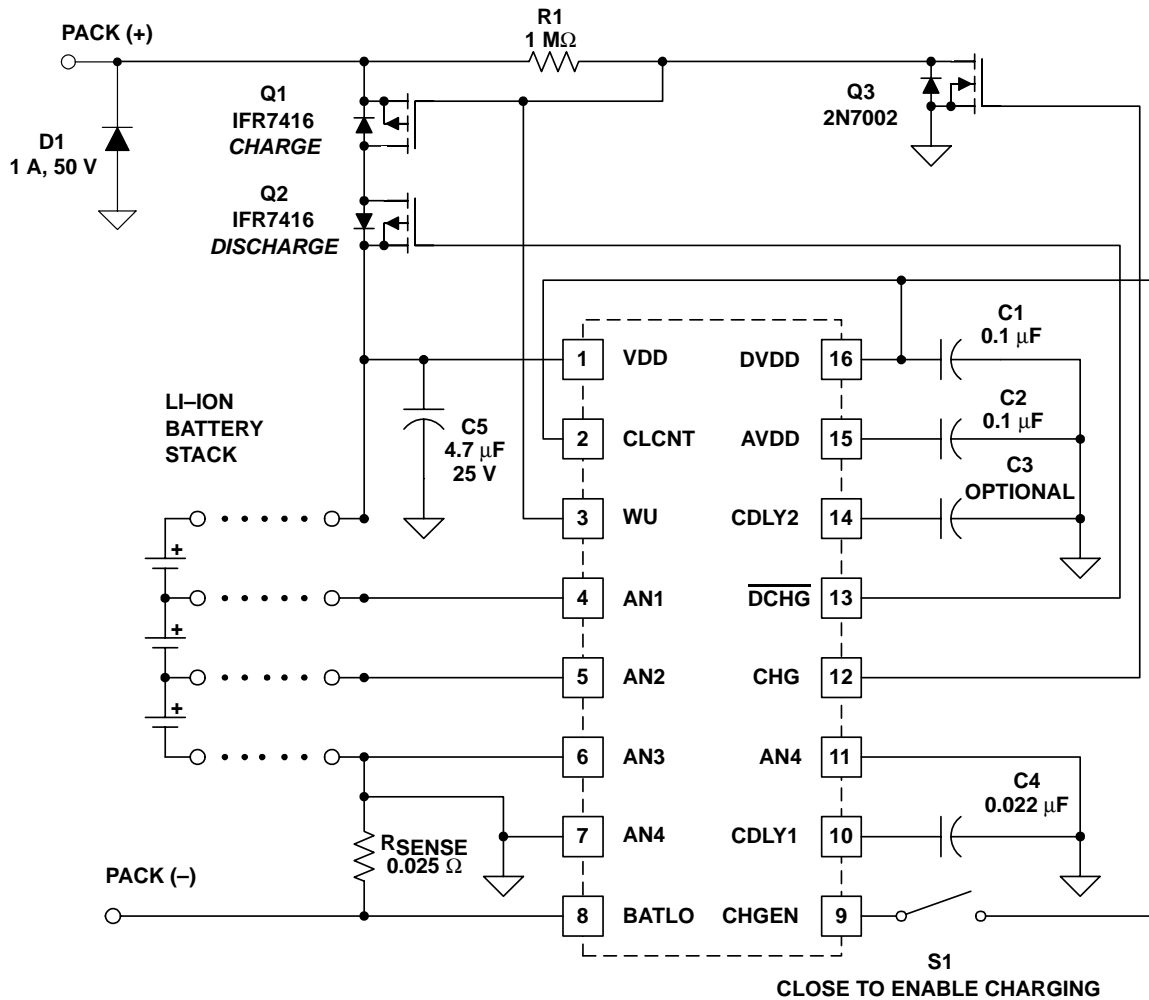
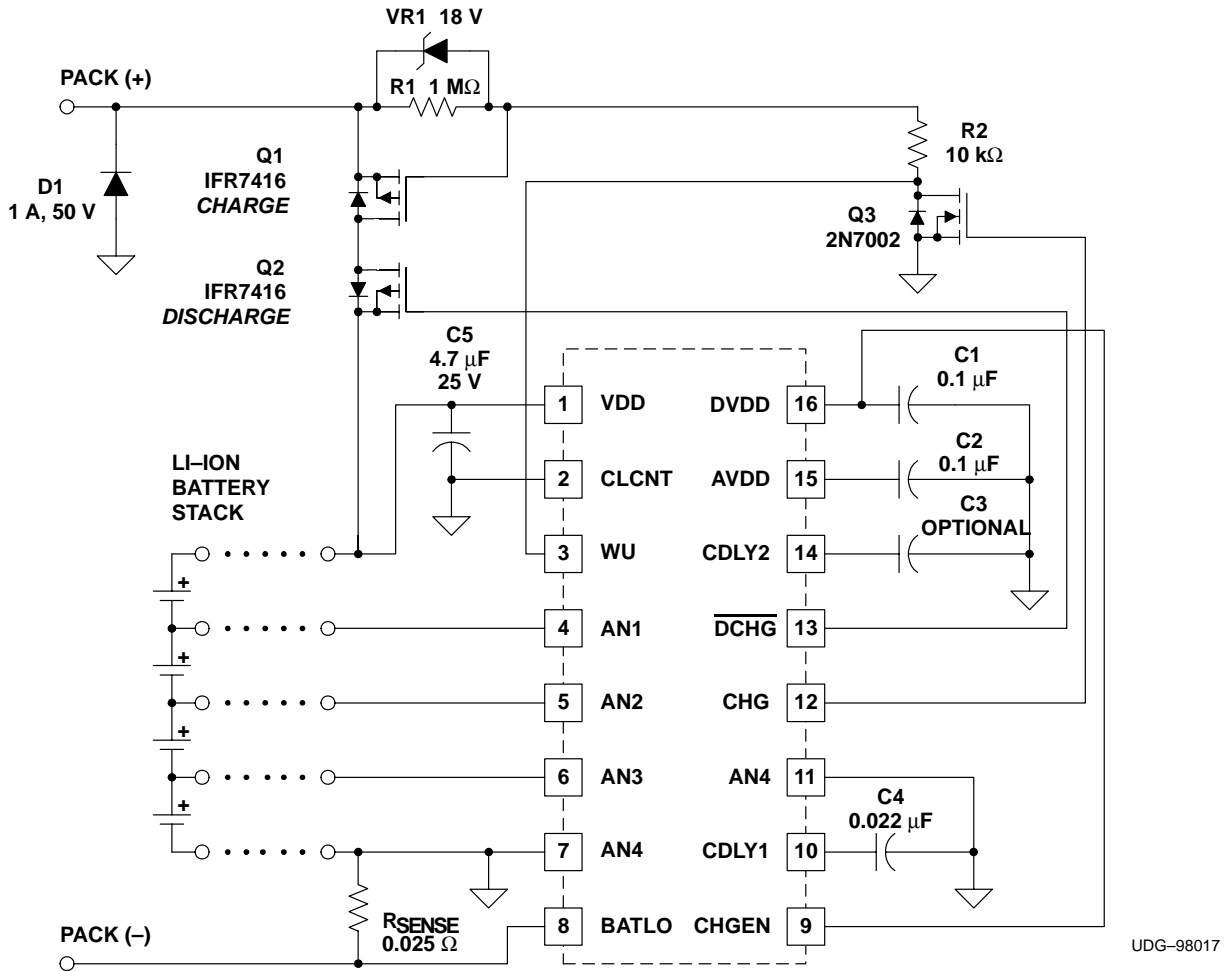
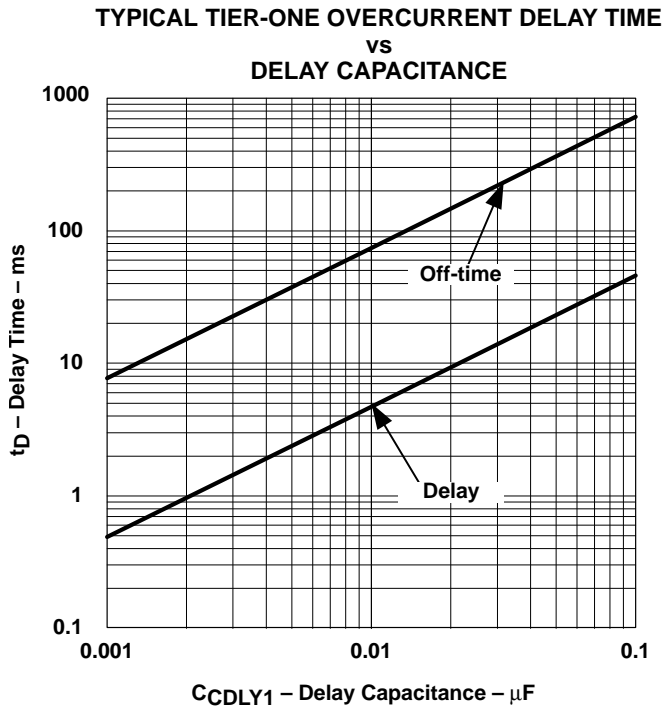

Figure 1. Three-Cell Lithium-Ion Protector Application Diagram
Figure 2. Four-Cell Lithium-Ion Protector Application Diagram
Figure 4
The UCC3957 provides complete protection against overdischarge, overcharge and overcurrent for a three- or four-cell lithium-ion battery pack. It uses a *flying capacitor* technique to sample the voltage across each battery cell and compare it to a precision reference. If any cell is in overvoltage or undervoltage, the internal-state machine takes the appropriate action to prevent further charge or discharge. High-side P-channel MOSFETs are used to independently control charge and discharge current. Figure 1 shows a three-cell lithium-ion protector application diagram with the optional charge-enable switch. In this application, the diode D1 protects the MOSFET Q2 from inductive kick at turn-off.
Figure 2 shows a four-cell protector with optional components to protect the charge FET from excessive gate-to-source transients. In this application, the Zener diode VR1 and the resistor R2 are optional. They protect the MOSFET Q1 from excessive open-circuit charger voltage. Diode D1 protects MOSFET Q2 from inductive kick during turn-off.
The use of a small N-channel level shifter (Q3 in the application diagrams) allows the IC to interface with the high-side charge FET (Q1), even in the presence of a runaway charger. Only the drain-source voltage rating of the charge FET limits the charge voltage that the protection circuit can withstand. The wakeup (WU) pin is designed to handle input voltages greater than VDD, as long as the current is limited. In the examples shown, the charge FET's gate-source resistor (R1) provides this current limiting. Note that in Figure 2, a resistor and zener (R2 and VR1) have been added to protect Q1 against any possibility of a voltage transient exceeding its maximum gate-source rating.
The first-tier threshold is 150 mV nominal, corresponding to 6 A using a .025- Ω sense resistor as shown in the examples of Figure 1 and Figure 2. If the pack-discharge current exceeds this amount for a period of time, determined by the capacitor on the CDLY1 pin, it then enters the hiccup mode. The first-tier hiccup duty cycle is fixed at approximately 6%, minimizing power dissipation in the event of a sustained overload. The absolute on and off times of the discharge FET (Q2) are controlled by the CDLY1 capacitor. A curve relating the delay (on time) to this capacitor value is shown in Figure 4. The off time is approximately 17 times longer than the on time.
In the examples shown in Figure 1 and Figure 2 (with CDLY1 = .022 μ F), the first-tier overcurrent on time is approximately 10 msec, while the off time is approximately 170 msec, resulting in a 5.9% duty cycle for currents over 6 A (but less than 15 A). If no CDLY2 capacitor is used, the second-tier on time is less than 200 μ sec (assuming no stray capacitance), resulting in a duty cycle of about 0.1% for currents over 15 A. If CDLY2 = 22pF, the typical on time for currents exceeding 15 A is approximately 800 μ sec, resulting in a duty cycle of 0.5%.
In the case of a short circuit, the di/dt that occurs when the discharge FET is turned off can result in a significant voltage undershoot at the pack output due to stray inductance. This undershoot can potentially exceed the breakdown voltage rating of the discharge FET. A clamp diode (D1 in Figure 1, Figure 2, and Figure 3), or a capacitor across the pack output, protects against this possibility. A diode also provides protection from a reverse-polarity charger.